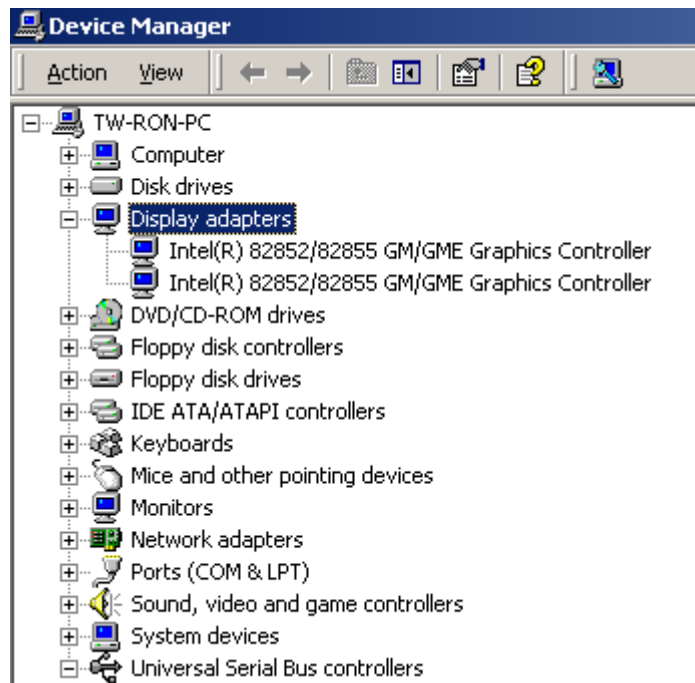

Figure 6-7: Expand the Display Adapters Category
Step 5: Expand the **Display Adapters** category (Figure 6-7). Right click the adapter and select **Properties**.